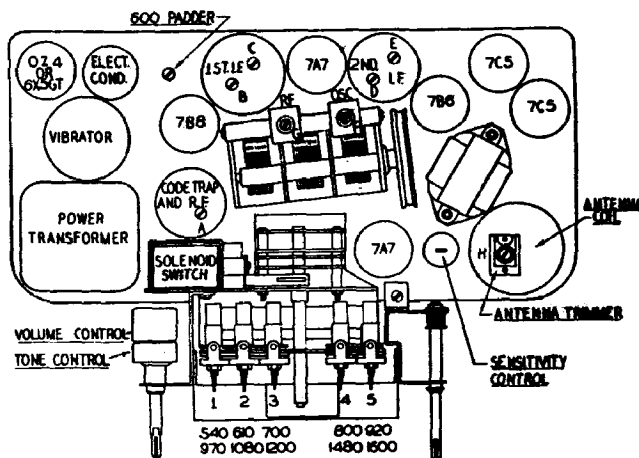

Fig. 5.
NOTE: This receiver is equipped with an adjustable sensitivity control located on the top of the chassis as shown in Fig. 5. The control is set at the factory to a position which gives sensitivity of 8 microvolts at 1 watt output. It is found advisable to hold the receiver at this level as any higher sensitivity may result in excessive background noise and unless laboratory equipment is available for measuring sensitivity, it is not advisable to change this setting.
LF.: The receiver must be in one of the automatic positions. The signal generator is set at 455 K.C. and fed through the special Zenith antenna dummy to the receiver. The code trap adjustment screw A (see Fig. 5) is adjusted for maximum response. The adjustment screws B, C, D and E are then adjusted in order for maximum response on the output meter (See Fig. 5). The code trap A is then adjusted for minimum response.
R.F.: The receiver is returned to manual and the tuning control is rotated until the condenser plates are out of mesh (1600 K.C.) Set the signal generator to 1600 K.C. and adjust the 1600 K.C. osc. trimmer F (See Fig. 5) for maximum response.
Set the signal generator to 1400 K.C. and rotate the tuning control until a signal is heard and adjust the R.F. trimmer G and antenna trimmer H (See Fig. 5) for maximum response.
Set the signal generator to 600 K.C. and rotate the tuning control until the signal is heard. The condenser gang is then rocked slightly while adjusting the 600 K.C. padder I (See Fig. 5) to maximum reading on output meter.